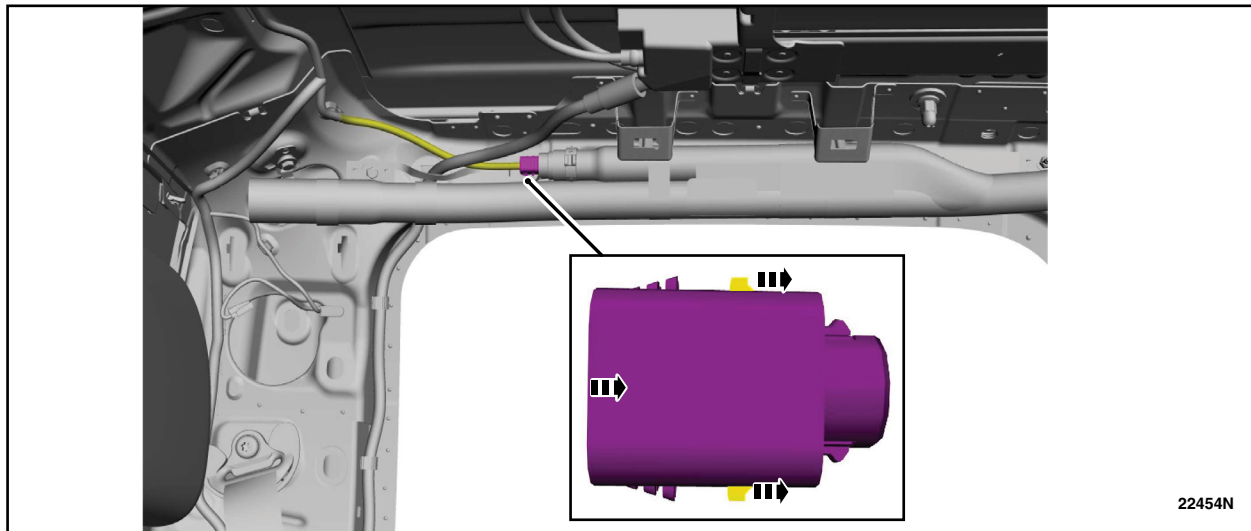

FIGURE 33
35. Connect the side curtain airbag electrical connector and ensure that the spring-loaded locking tabs have engaged. See Figure 33.